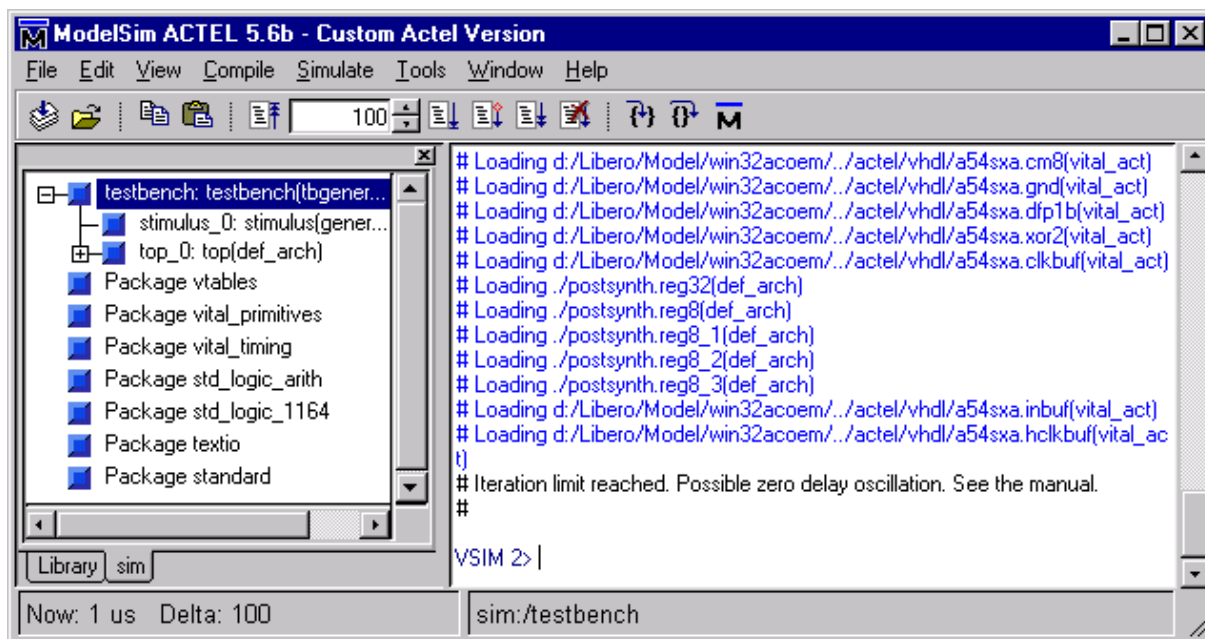

Figure 31 - ModelSim for Actel main window for top post-synthesis simulation
2. The ModelSim for Actel Simulator will open and compile the source files (Figure 31).